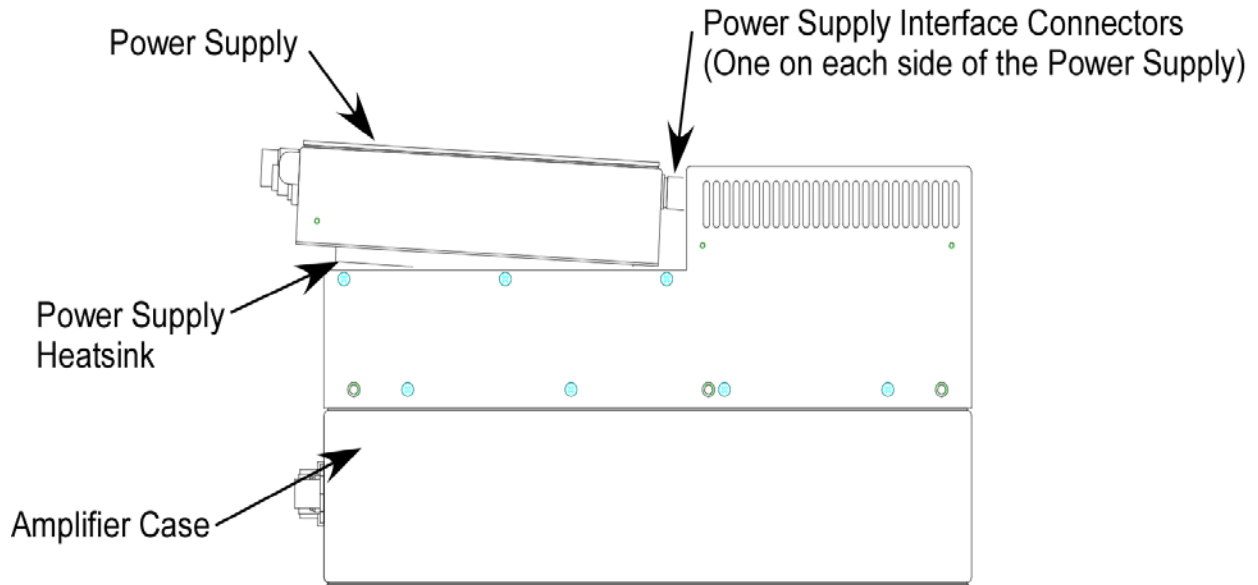
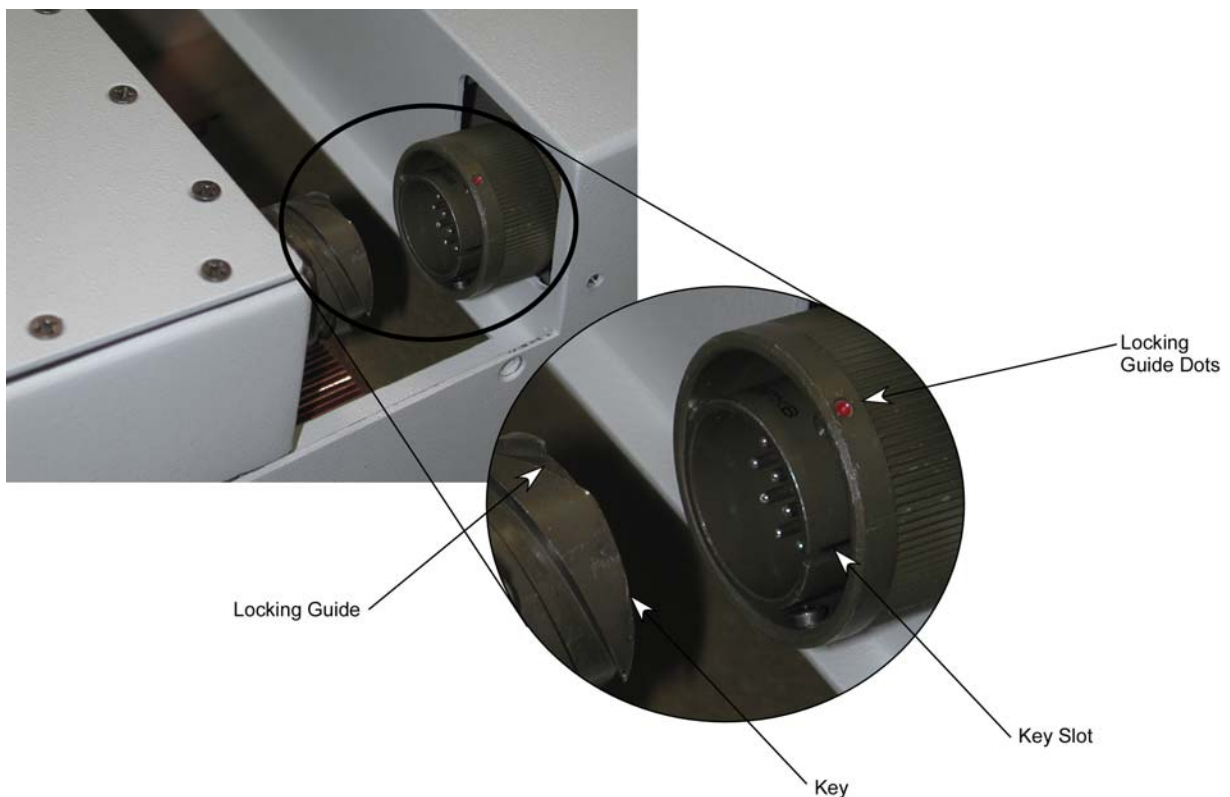

Figure 2, Power Supply Interface Connectors
Figure 3, Power Supply Interface Connector Key and Slot Location
4. Refer to Figure 2. Carefully raise the front of the power supply to an angle of about 5 degrees. This will allow the power supply heatsink to clear the amplifier case.
- 1 Refer to Figure 2 and Figure 3. Position the new power supply approximately one inch from the Power Supply Interface Connectors at an angle of approximately 5 degrees.